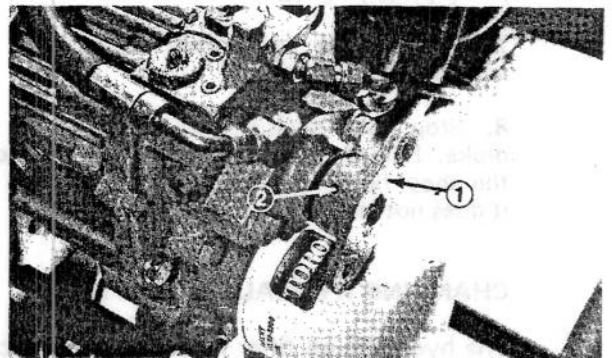

Figure 124
4. Loosen two set screws retaining hub on pump shaft (Fig. 124). Slide hub off shaft.
6. Set drain pan below front of transmission. Remove two capscrews and flatwashers securing charge pump housing to center section (Fig. 124). Using a seal protector, slide charge pump housing and rotor assembly off pump shaft. O-ring will probably stay in groove on inside of charge pump housing.